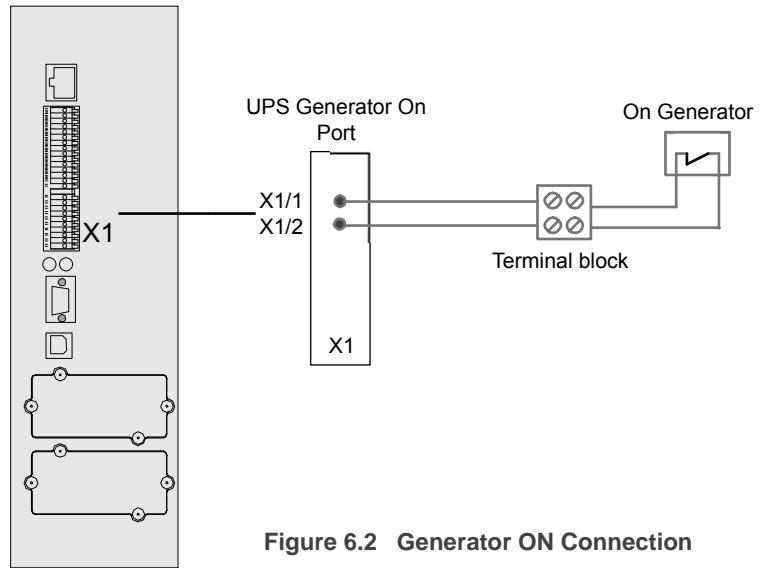

Figure 6.2 Generator ON Connection
2. Connect the cable as shown in Figure 6.2.